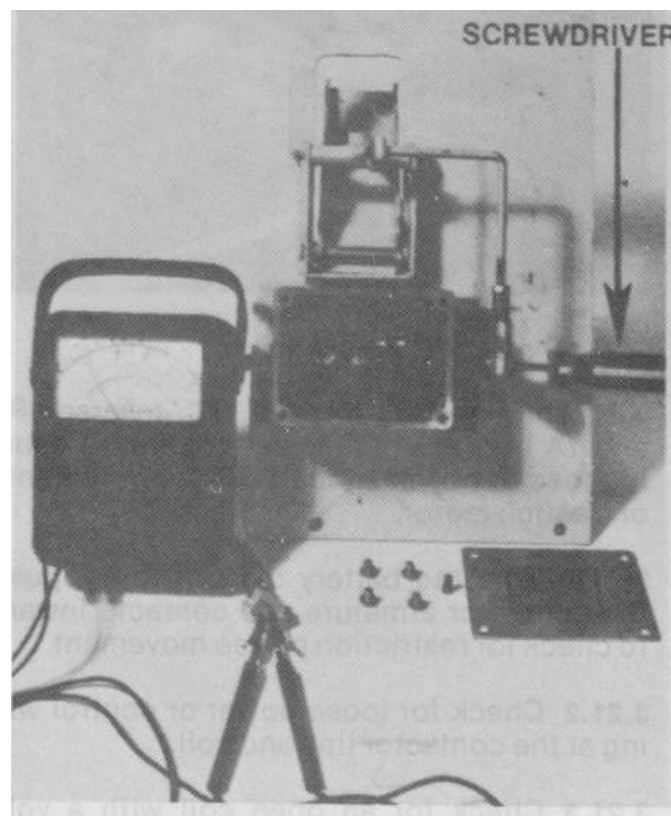

Figure 3-9
3.28 The accelerator switch module may be worn or out of adjustment causing vehicle speed problems (Fig. 3-9).
Figure 3-9 shows the accelerator module removed and ready for testing.